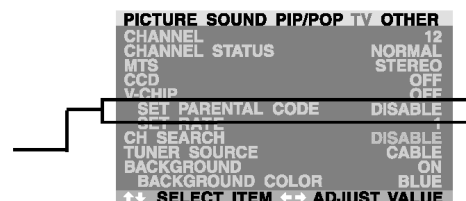

Figure 1
3. The first menu in Figure 1 is displayed. Press the Menu/ADJ **←→** key to toggle between ON or OFF. To turn on parental guide, highlight to ON.
4. Press the ADJ + key to set the selection to “ENABLE”. As soon as you press this button, the Passcode setting menu will be displayed (see Figure 1).